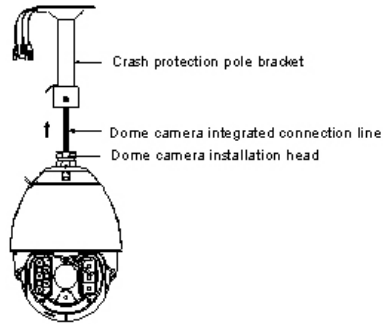

Fig 6-3 Connect installation head and hoisting bracket
2. Insert the dome camera integrated connection line to the inside of bracket, as fig 6-3.